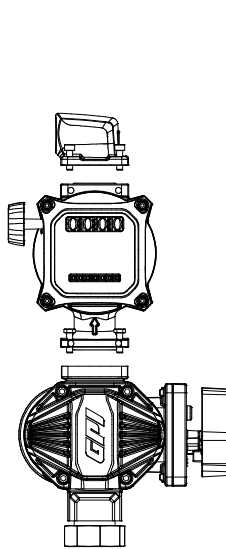

Figure 4b
2. Using 5mm hex wrench, remove the outlet of modular pump and reattach it to the outlet flange of the meter, making sure the O-ring is fully seated (see Figure 4b).
3. Using the hex bolts removed in step 1, attach meter inlet flange to pump outlet flange, making sure O-ring is fully seated (see Figure 4b).